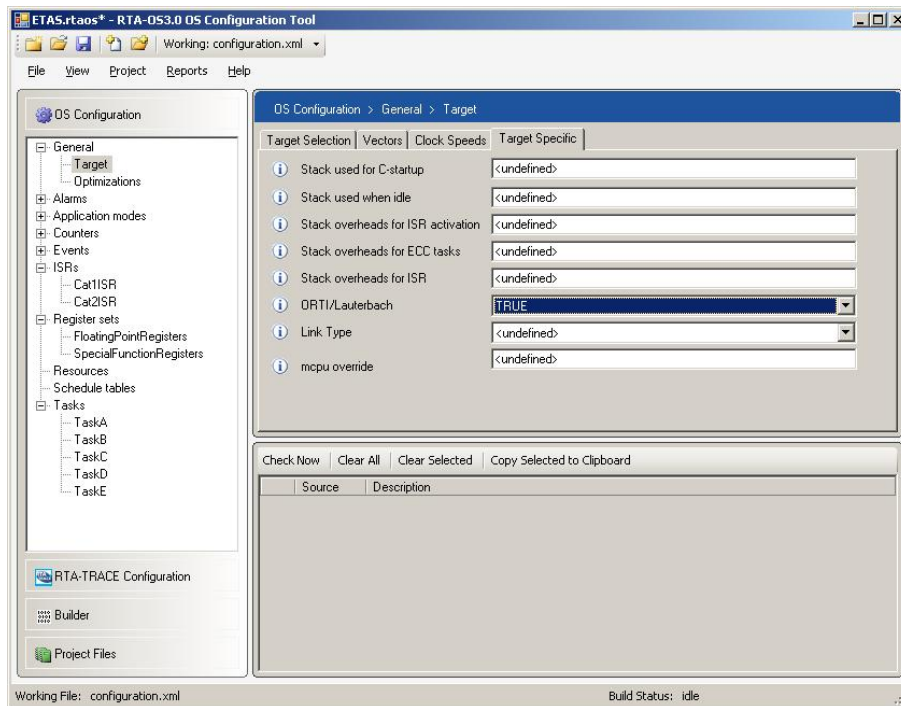

Figure 16.1: Enabling ORTI Support
Step 1 Use `rtaoscfg` to enable ORTI debugger support. As ORTI is target-specific, the configuration is done in the “Target Specific” settings. Figure 16.1 shows how this is done.